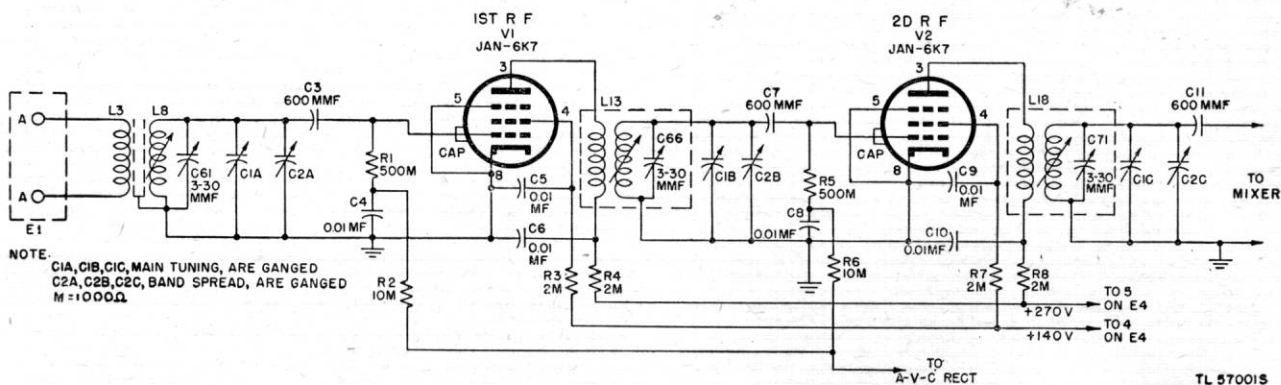

Figure 25. Radio Receiver BC-779-B, functional diagram of r-f amplifier.
59. R-F Amplifier (fig. 25)
For simplicity, only the circuits for the 2.5- to 5.0-mc band are shown and the band switching arrangement is omitted from figure 25. The band switching circuits are discussed in paragraph 68.
c. DIFFERENCES IN R-F CIRCUITS. (1) *Plate supply.* In Radio Receivers BC-779-(*), BC-1004-(*), and R-129/U, plate voltage is series-fed through resistance-capacitance (R-C) decoupling circuits and the r-f transformer primaries (fig. 25). In Radio Receiver BC-794-(*), plate voltage is shunt-fed by means of choke L35 and 300-mmf capacitor C57 in the first stage, and choke L36 and 300-mmf capacitor C58 in the second stage (figs. 26 and 57). This method was chosen to keep plate voltage off the tuned impedance interstage coupling circuits L49, C99, and L50, C100, of the 20-40-mc band. Decoupling filters R4, C6, and R8, C10, are not included.